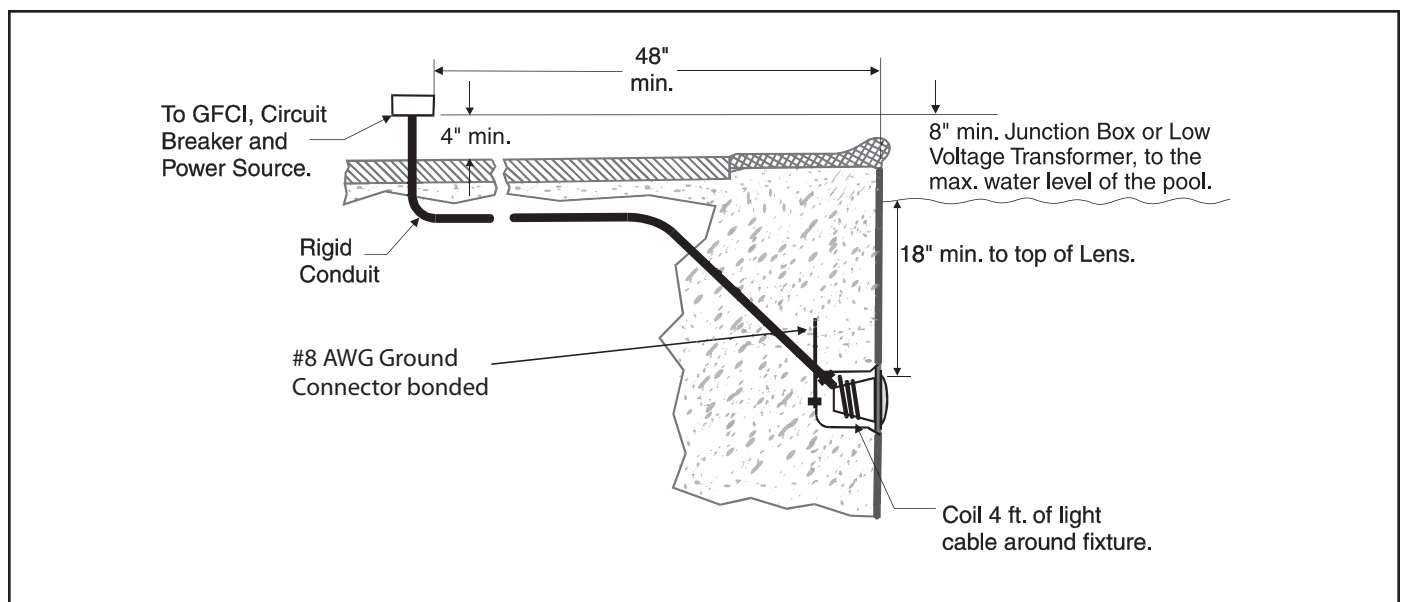

Figure 1. Pool Niche Installation
- The Junction Box (or, for 12 volt models, the low voltage transformer) must be located at least eight (8) inches above water level, at least four (4) inches above ground level, and at least four (4) feet from the edge of the pool or spa. See Figure 1.
- The light fixture and all metal items within five (5) feet of the pool or spa must be properly electrically bonded to a reliable point of grounding.
the top edge of the underwater light's lens is at least 18 inches below (not more than 48 inches below in Canada) the surface of the water in the pool or spa. See Figure 1.
- The wet niche must be properly electrically bonded and grounded via the No. 8 AWG ground connector located at the rear of the niche. See Figure 1.